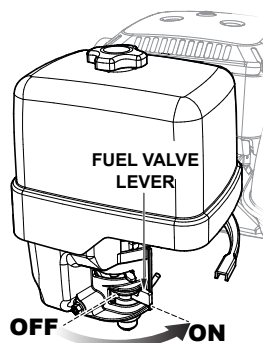

Figure 14. Fuel Shut-Off Lever
1. Place the fuel shut-off lever (Figure 14) in the **ON** position.
3. Place fuel shut-off lever (Figure 14) in the **OFF** position.